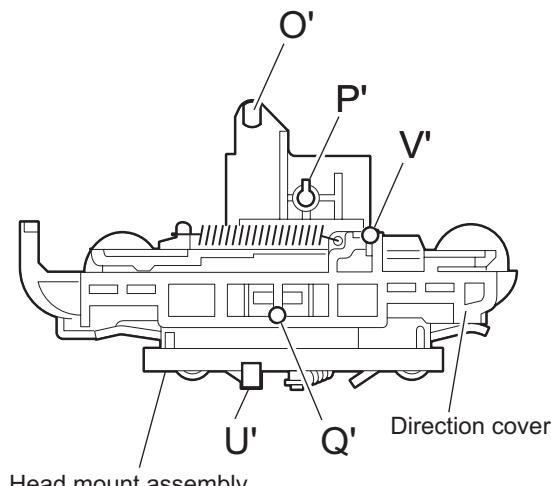

Fig.11
2.2.6 Reattaching the Play/ Record & Clear head (See Fig.11~13)
(1) Reattaching the head mount assembly.
- Fit the bosses O', P', Q', U' and V' on the head mount assembly to the holes P and V, the slots O, U and Q of the mechanism sub assembly (See Fig.11 to 13).